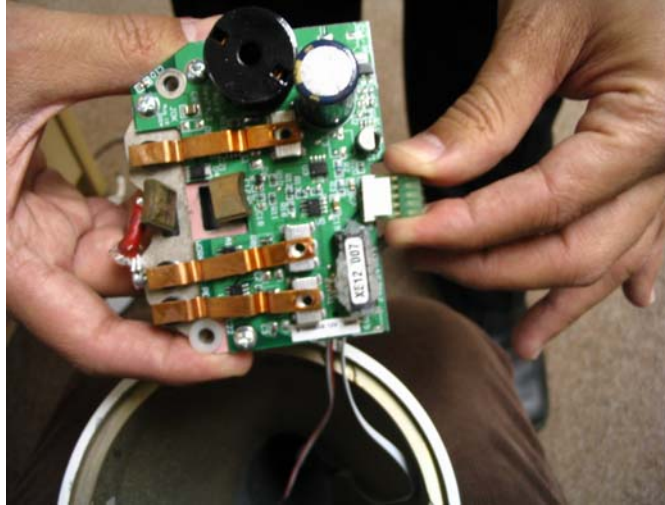

Fig. 4
- c.) With the slip ring assembly removed, use a ¼" socket or nut driver to remove the two screws holding the circuit to the body casting. These are the screws on the left and right side of the solid metal rectifier (item 13 on exploded view).
9. Carefully remove the circuit from the body as it is still connected by ribbon cable to the potentiometer and LED light. See Fig. 4
10. Unclip the ribbon cable from the circuit. See **Fig. 4**